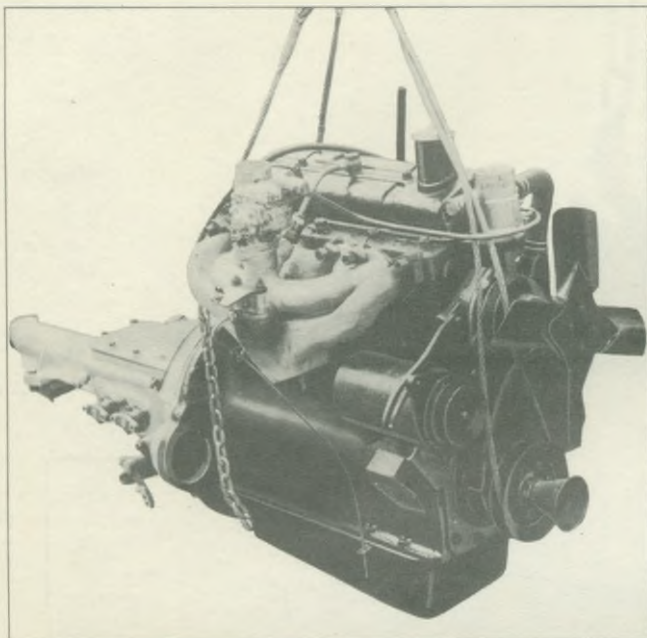
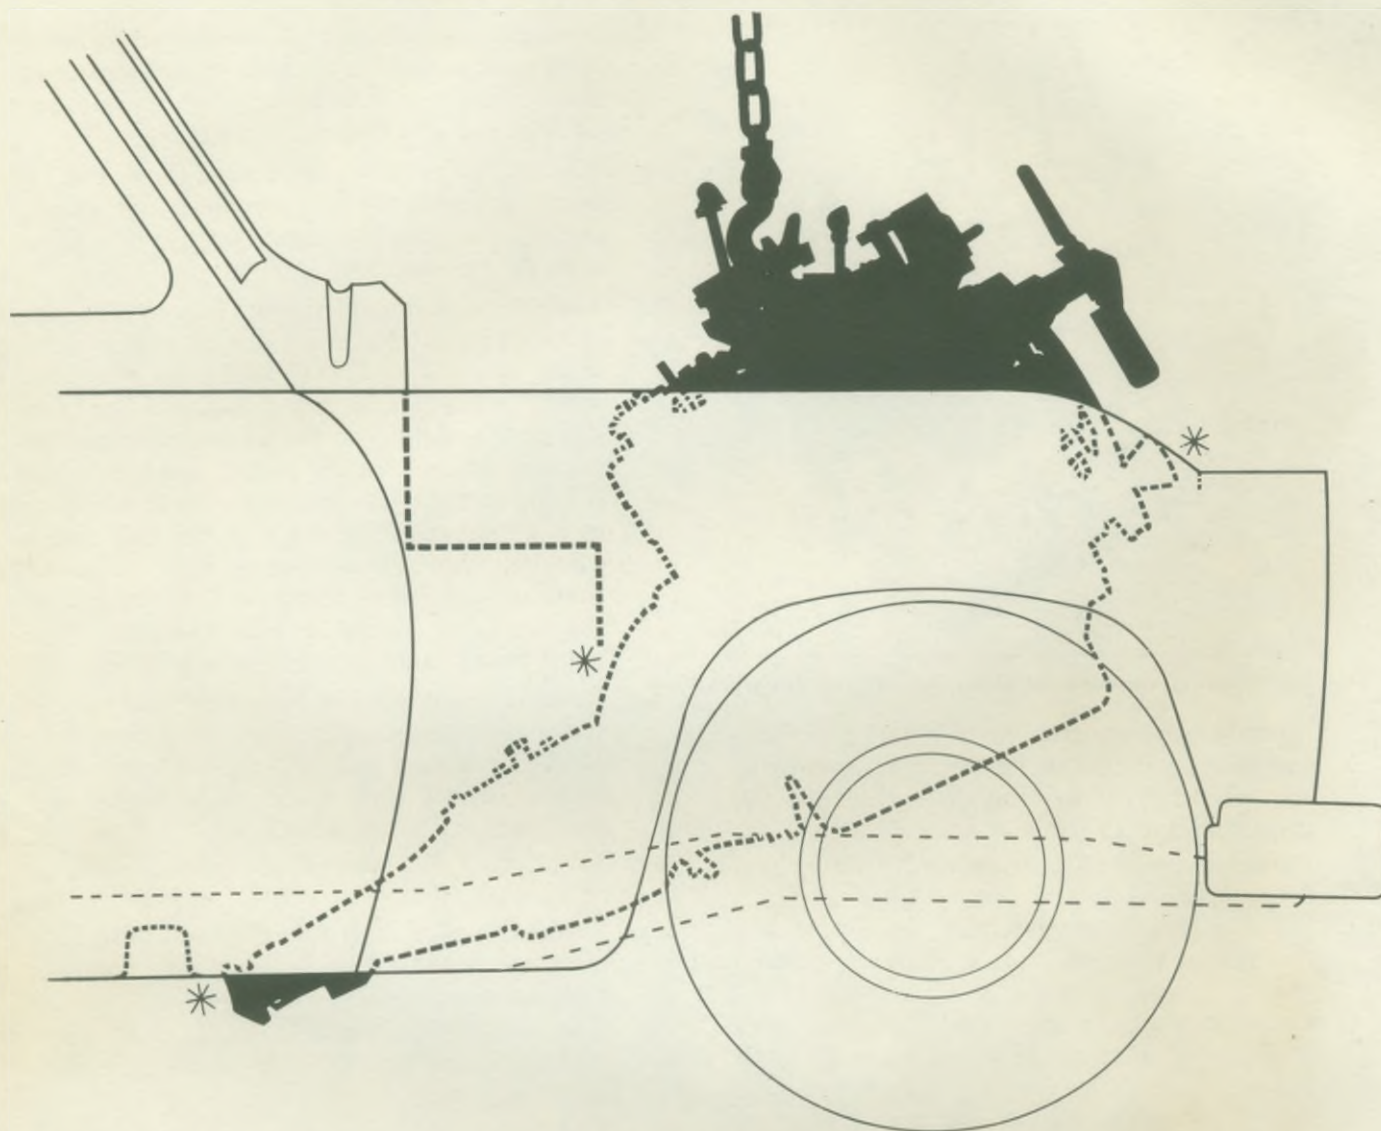

Fig. 39. Correct position of sling for engine lifting
Fig. 40. Removing engine unit with special lifting hook. The asterisks show the points which necessitate the angle of tilt for withdrawal.
14. Remove the engine by employment of a double sling, one round the fan pulley and the other round the back of the unit as shown in Fig. 39. Alternatively, employ lifting bracket as illustrated by Fig. 40 after removal of rocker cover. The removal of the engine and gearbox will require a certain amount of manipulation if overloading of the gearbox extension, by its pressure on the cross member, is to be avoided when lifting, as it is necessary to clear body details. The removal of the engine will be facilitated by raising the back of the car from floor level. A suitable lifting bracket, as shown in Fig. 40 may be obtained from Messrs. V. L. Churchill & Co.